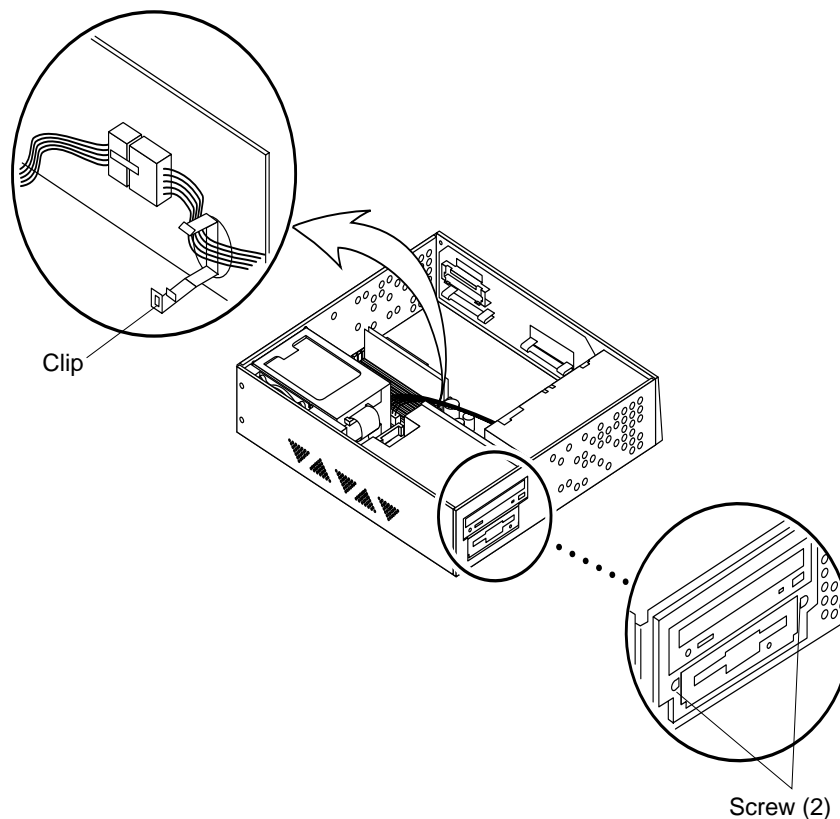

FIGURE 8-22 Removing the Drive Bracket
4. Disconnect the DC harness as follows (FIGURE 8-22):